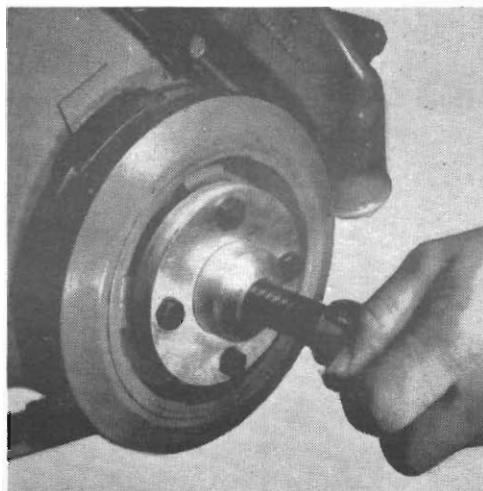

Fig. 23 - Removing damper pulley assembly (Tool E9C55D)
(3) Install Tool E9C55D only and pull the vibration damper assembly off the end of the crankshaft (Fig. 23). Do not pry or pull on the pulley except on the hub area, as damage can occur.